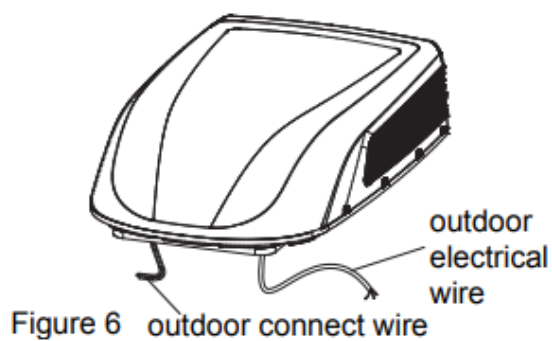

Figure 6
1. As shown in Figure 6, the outdoor unit has two sets of outgoing wires, which are power cord (high current) and the control signal wires respectively. The former one should be directly connected to the power supply terminal while the latter one should be connected to the control signal wire of the indoor unit.